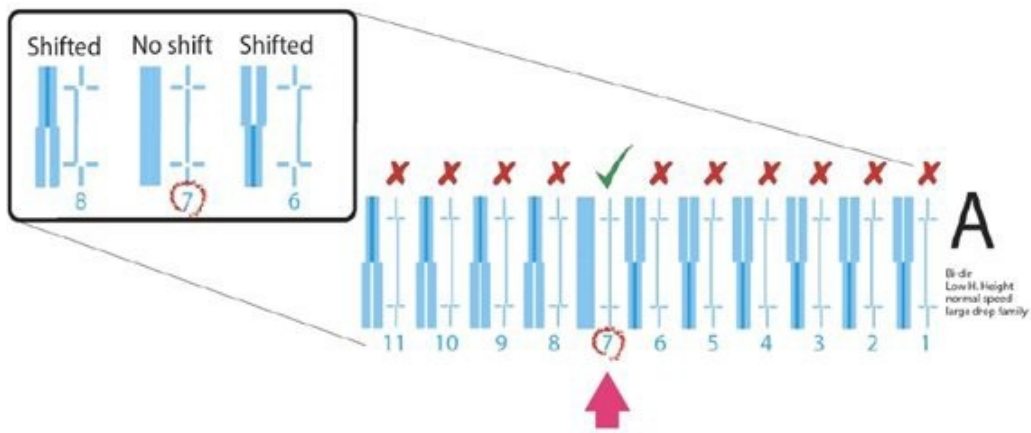

Figure 84
71. Check Patterns A, B and C. Locate and circle the numerical value of each alphabetical section where there is no shift. In the example here, we can determine the #7 pattern on line A is the proper choice to circle as the pattern shows no shifting. See Figure 84.